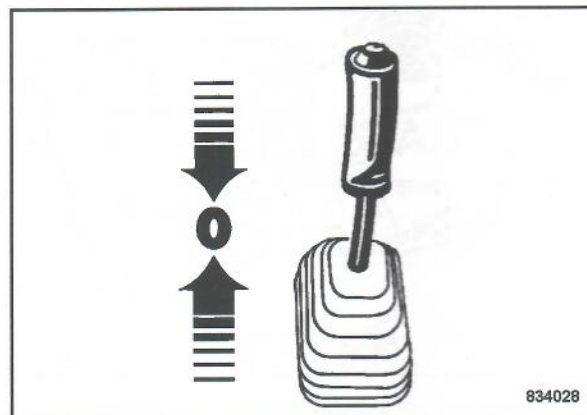

Fig. 36
- Shift the travel lever (Fig. 36) slowly to "0"-position.